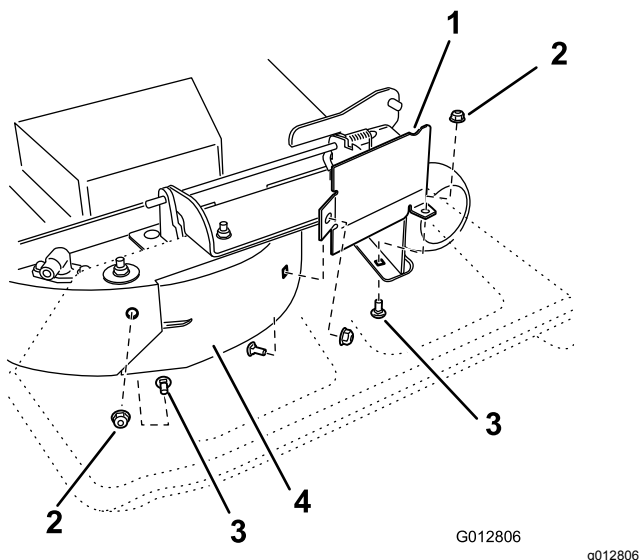

Figure 29
8. Remove the carriage bolt (5/16 x 3/4 inch) and locknut (5/16 inch) on the rear wall of the mower deck securing the baffle to the deck (Figure 29).
9. Locate the baffle guard at the front edge of the side discharge opening and remove the fasteners securing the baffle guard and the right baffle to the mower deck (Figure 29).